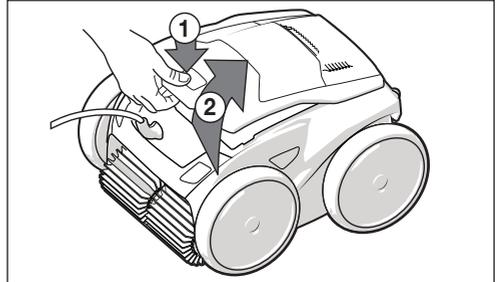

Figure 11. Lift Cleaner Cover
3. Push the cover lock (1) and lift the cover (2) until it is secured in the vertical position. See Figure 11.